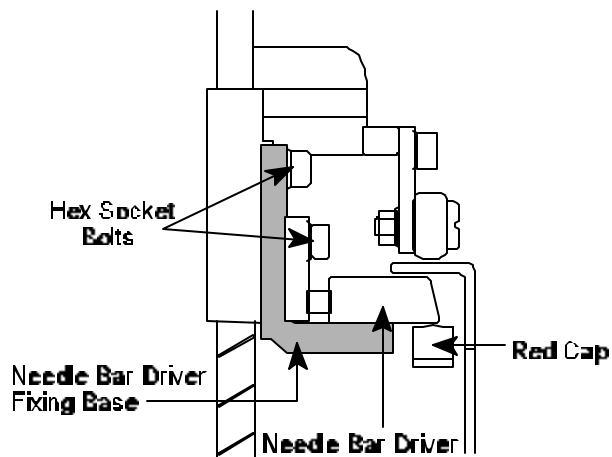

Figure 5
19. Using 3 mm Allen Wrench, **loosen** top and bottom hex socket bolts on Needle Bar Driver Fixing Base. See Figure 5.